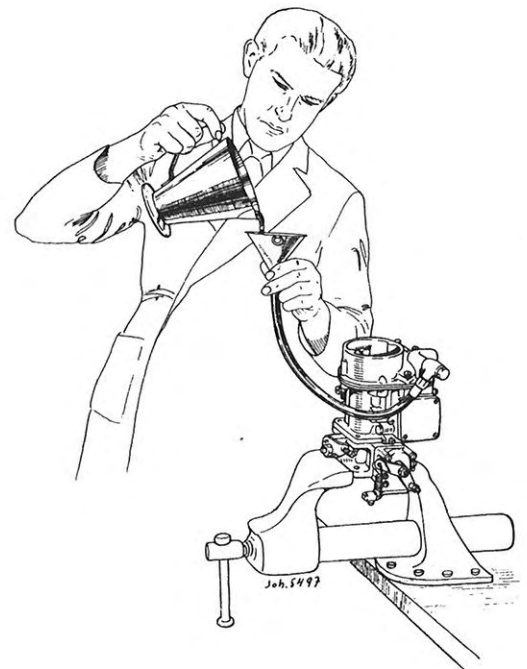

Fig. 7. Filling of float chamber
6. Fill the float chamber until the needle valve closes, see Fig. 7.